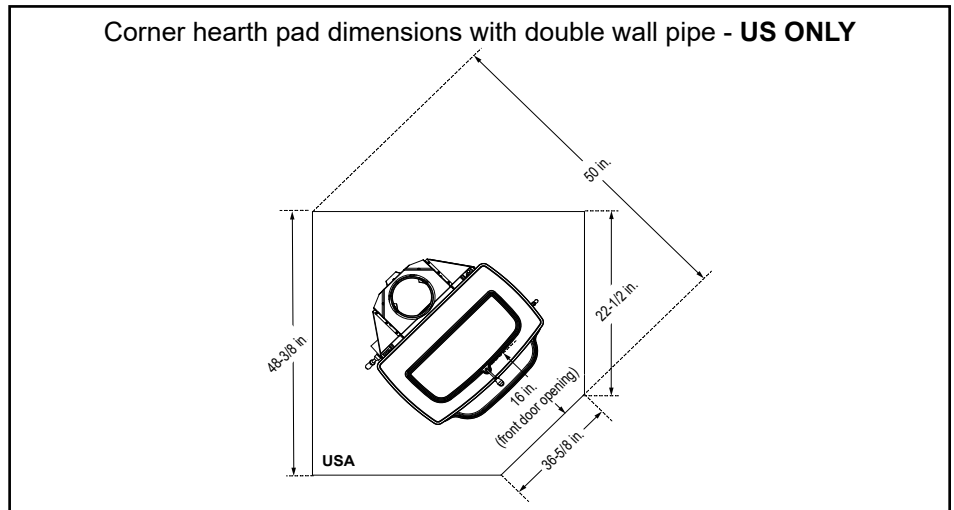

Figure 3.8
**In Canada**, similar floor protection must be provided 18" (457 mm) in front and 8" (203 mm) from the sides and rear of the appliance, Figure 3.8